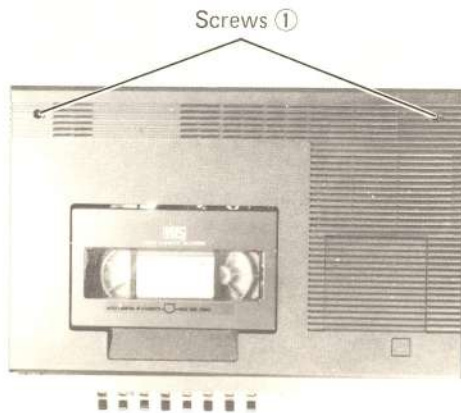

Fig. 3-1
1. Remove the two screws ① on the top cover as shown in Fig. 3-1. Then lift the top cover.